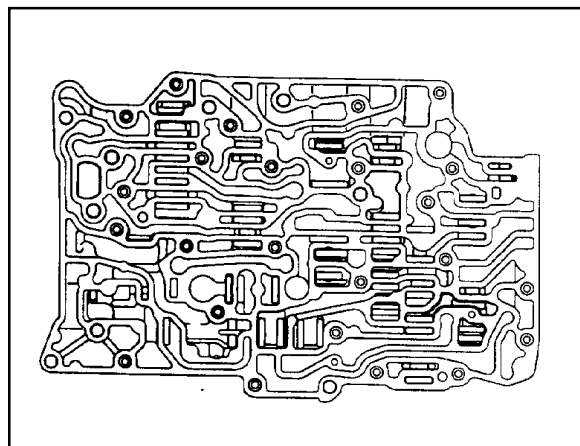

Figure 8.47 - Lower Valve Body
1. Wash the upper and lower valve bodies (refer to figures 8.47 and 8.48) thoroughly with cleansing solvent and blow dry.